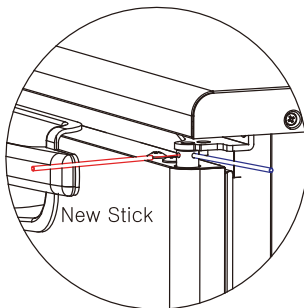

Fig 9-24
5. If tension is still present even after completing steps 1 through 4, repeat the procedure by using the steel stick. (Fig 9-24)